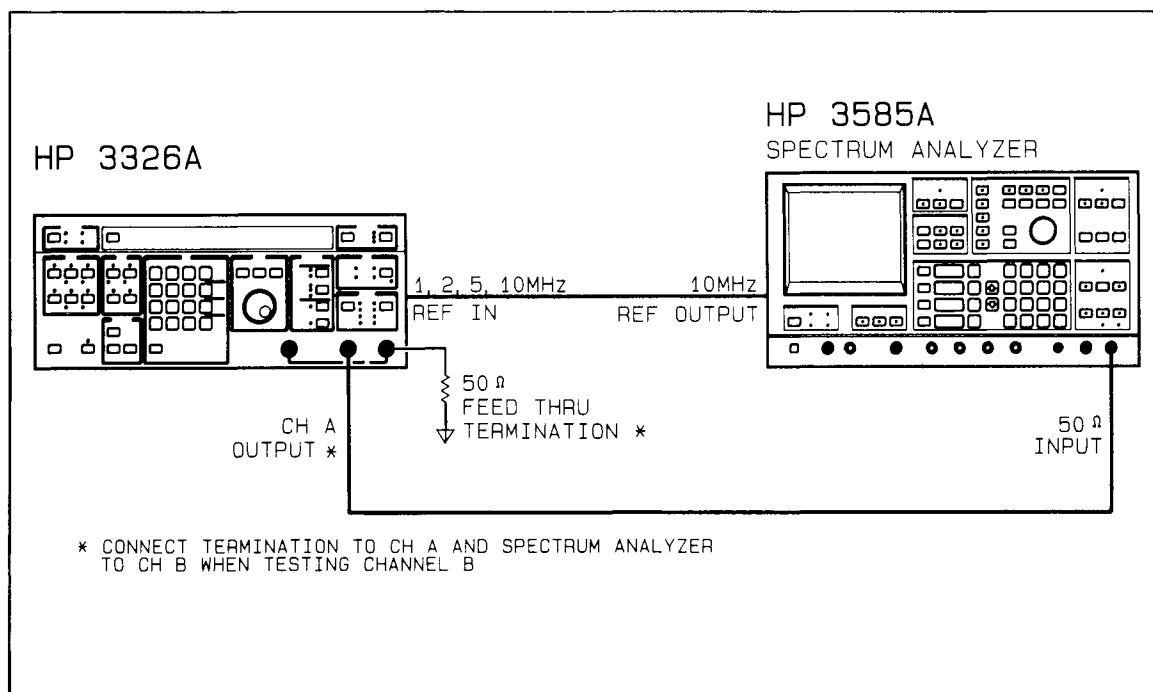

Figure 2-6. Channel Isolation Test
2. Connect the test equipment as follows (illustrated in Figure 2-6):